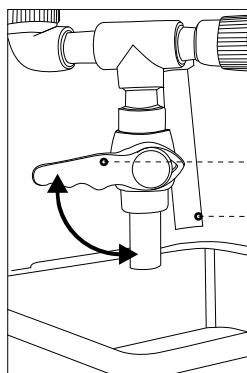

Fig.5 Emptying the reservoir
- Place the condensate reservoir under water outflow elements located under display cabinet frame Fig.5 (p.12)